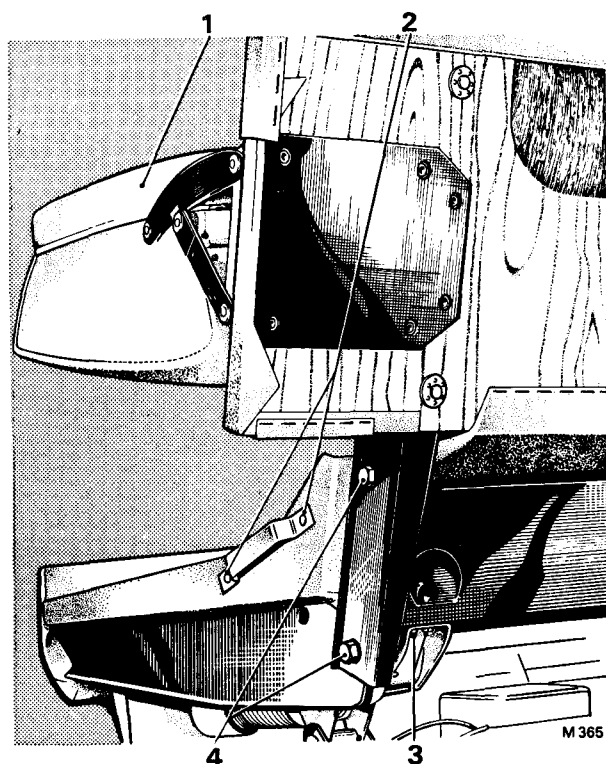

FIG. S29 POSITION OF THE INBOARD SCREWS SECURING THE FRONT SEAT BACKREST TO THE BASE (Long Wheelbase Cars with Centre Division)
Lift the leather trim from the inboard edge of the seat valance to expose the two split rivets securing the seat belt retaining bracket to the valance (see Fig. S29); remove one of these split rivets then detach the belt from the seat base.
3. Remove the four $\frac{1}{2}$ in. A/F bolts and nuts securing the backrest to the seat base; refer to Figure S29 which shows the position of the two inboard bolts. Remove the backrest.